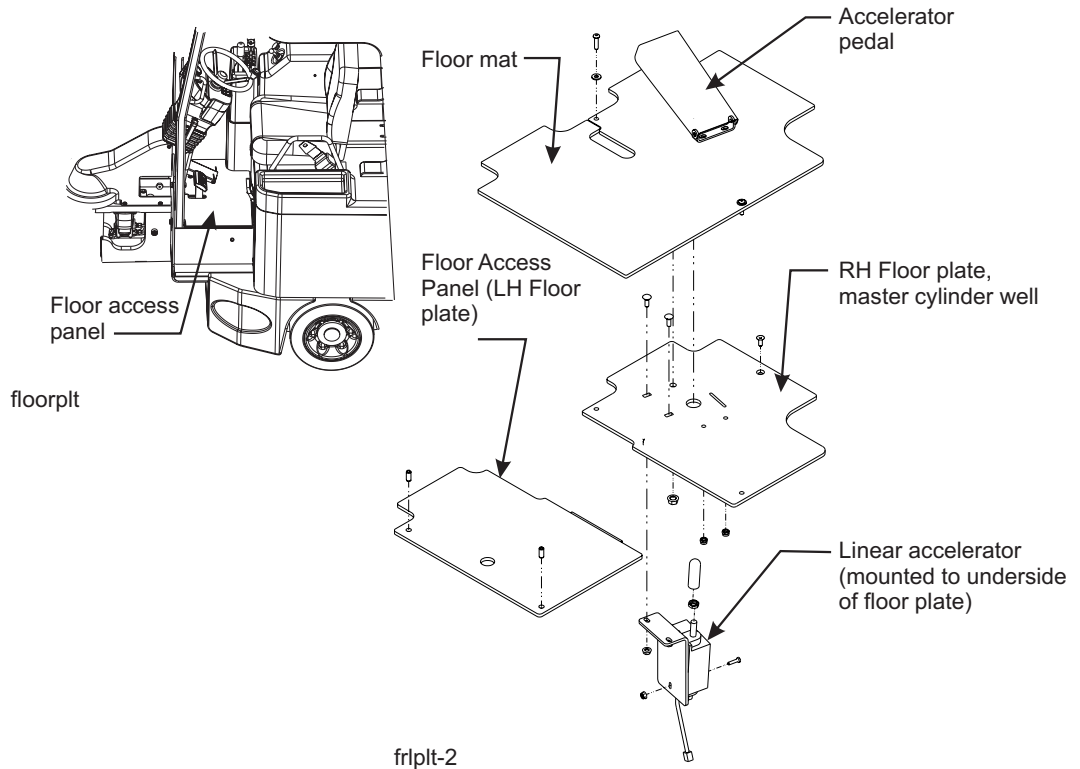

Figure 4-1 Floor Access Panel, Driver's Cab
2. If provided, remove hardware and pull up the rubber floor mat. Be careful around the accelerator pedal to avoid tearing the mat (See Figure 4-1).
3. Remove hardware and the access panel (LH floor plate) from the truck frame (See Figure 4-1).